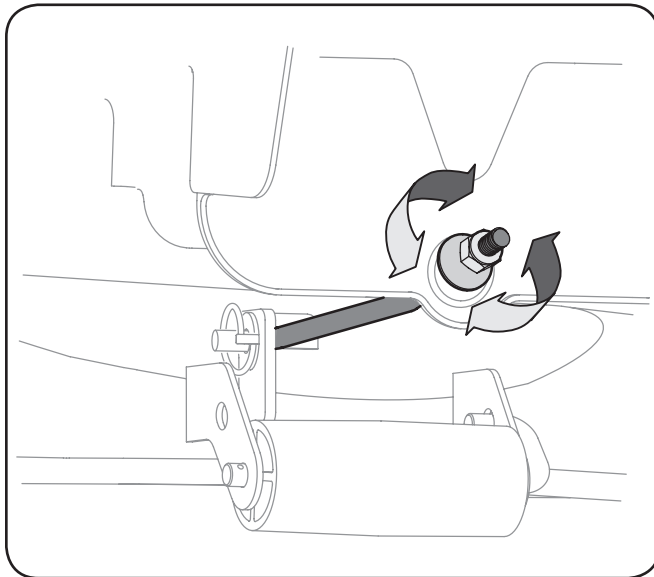

Figure 6-4
1. Locate the flange lock nut on the end of the deck hanger rod. See Figure 6-4.
3. To *lower* the front of the deck, loosen (thread outward) the hex nut, away from the front hanger bracket. See Figure 6-4.